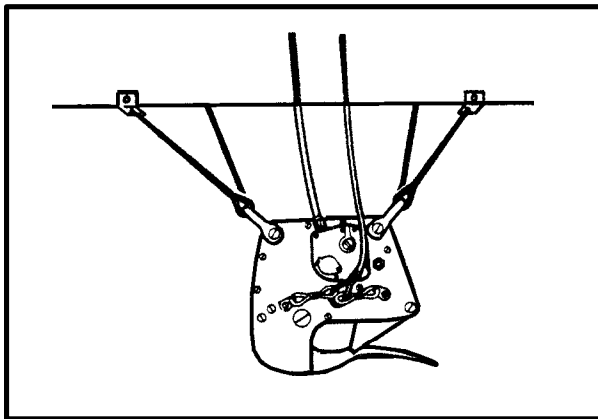

Figure 2-7. Cable Suspended System
(1) The cargo hooks are the same but are mounted differently to the aircraft. Four cables extend from the fuselage attaching points to the cargo hook in the cable suspended system (Figure 2-7).